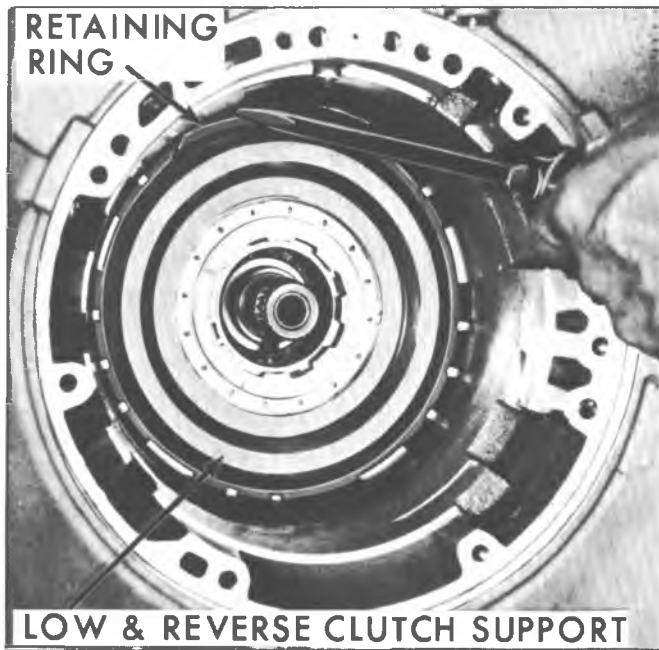

Fig. 7A-42B--Removing Low and Reverse Clutch Support Retaining Ring
14. Remove low and reverse roller clutch support to case retaining ring (fig. 7A-42B).